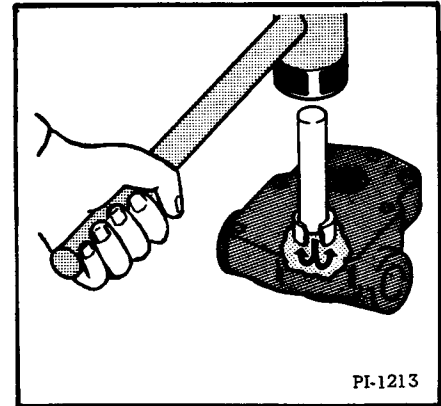

Fig. 30 Forcing Out the Bearings
(7) If the needle bearings must be replaced, it is usually possible to start them out of the bearing wells by using a piece of drill rod or shaft diameter. Fill the bearing with heavy grease and drive the drill rod into the bearing with a hammer. The rod acts as a plunger, and the grease forces the bearing up out of the bearing well (Fig. 30). The drain holes in the bearing wells must first be plugged to make this process effective.